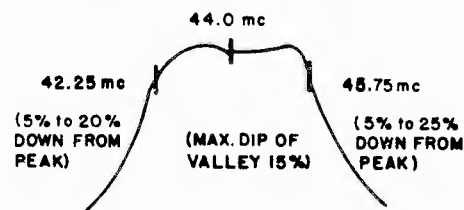

FIG. 3
4. Adjust T-4 top and bottom simultaneously for maximum gain and symmetry about the 44.0 mc marker as shown in Fig. 3. (Use core positions nearest outside ends of coil.) With input signal maintained to produce 2 volts P-P output during final adjustment, bandwidth markers should fall between the tolerances indicated.